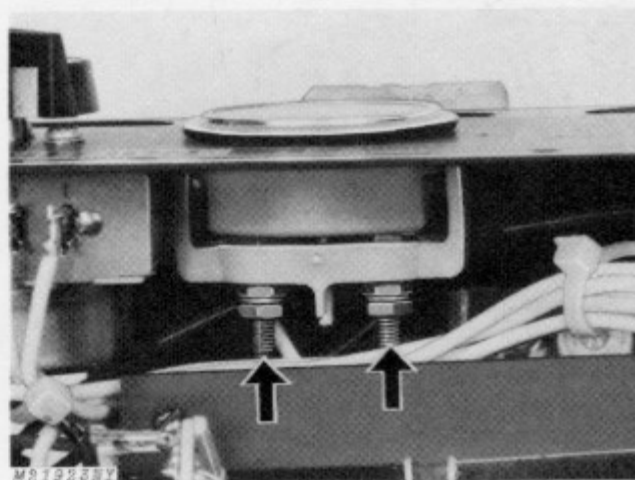

Fig. 13-Checking Ammeter
2. Touch ohmmeter probes to terminals of ammeter, Fig. 13.